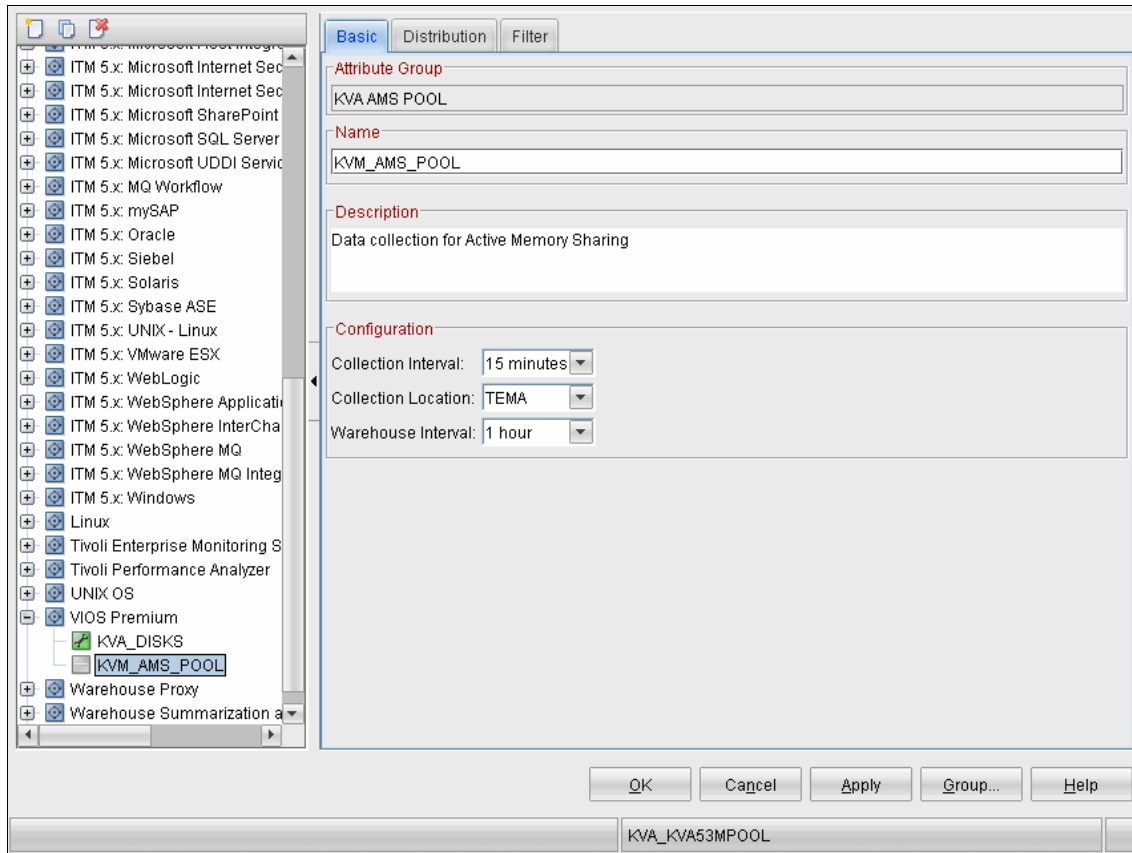

Figure 18-21 Basic information for a history collection
4. Define the collection parameters on the Basics tab, as shown in Figure 18-21.